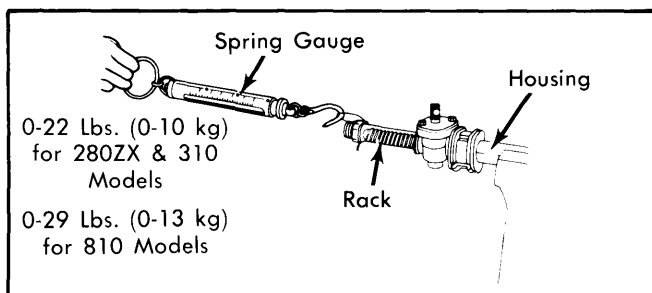

Fig. 3 Measuring Steering Gear Rack Pulling Force
7) Measure force to pull rack from neutral (center) position. See Fig. 3. Force should be 0-22 Lbs. (0-10 kg) for 280ZX & 310 models; 0-29 Lbs. (0-13 kg) for 810 models. Install rubber boot and clamp onto tie rod. Thread lock nut over threaded portion of rack. Apply grease to sliding surfaces of tie rod inner socket and spring seat. Install tie rod assembly to rack end together with inner spring and spring seat.